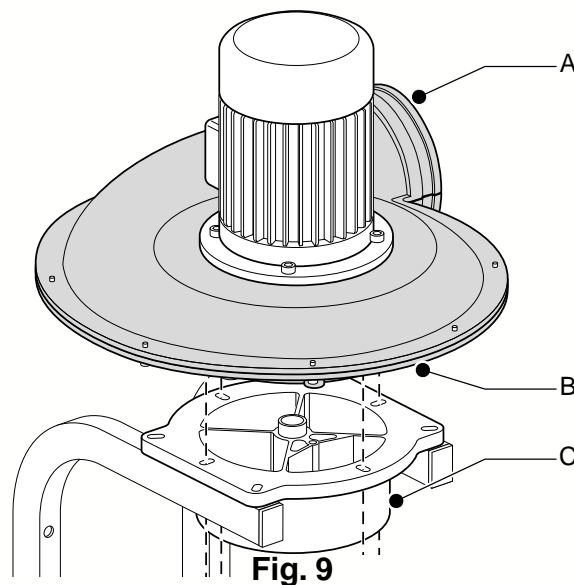

Fig. 9
Use the (2) 0.75" bolts and the (2) 2.5" bolts with washers supplied with the fan to mount the fan (Fig. 9, Item B) to the rotating hinge (Fig. 9, Item C) as shown. Tighten all mounting bolts firmly to make the seal at the inlet of the fan.